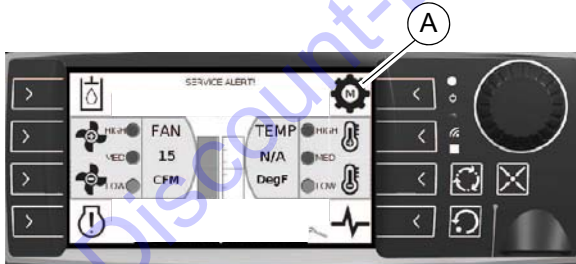

Figure 2-14. Mode Icon (A)
1. See Figure 2-14. When the Mode icon displays (A), press corresponding button once